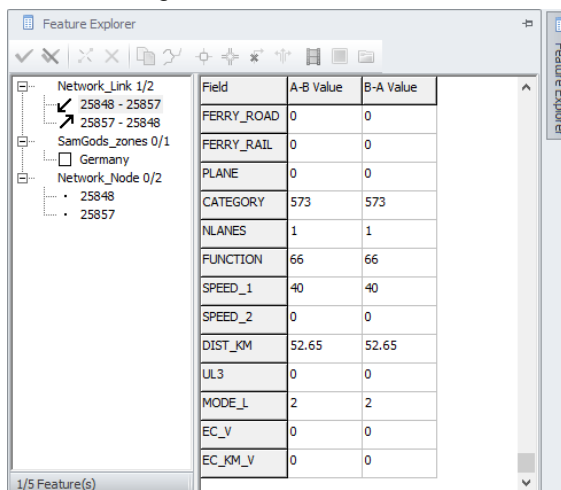

Figure 58 Feature Explorer window
- Visualize the attributes for a specific selected element – after an element has been selected using the “Select Features” tool (see first bullet above), the attributes will be displayed in the Feature Explorer window, see Figure 58. In the Edit mode, it is also possible to edit and save the new values directly in the Feature Explorer window. To change to Edit mode, click on Editor -> Start Editing on the Editor toolbar;